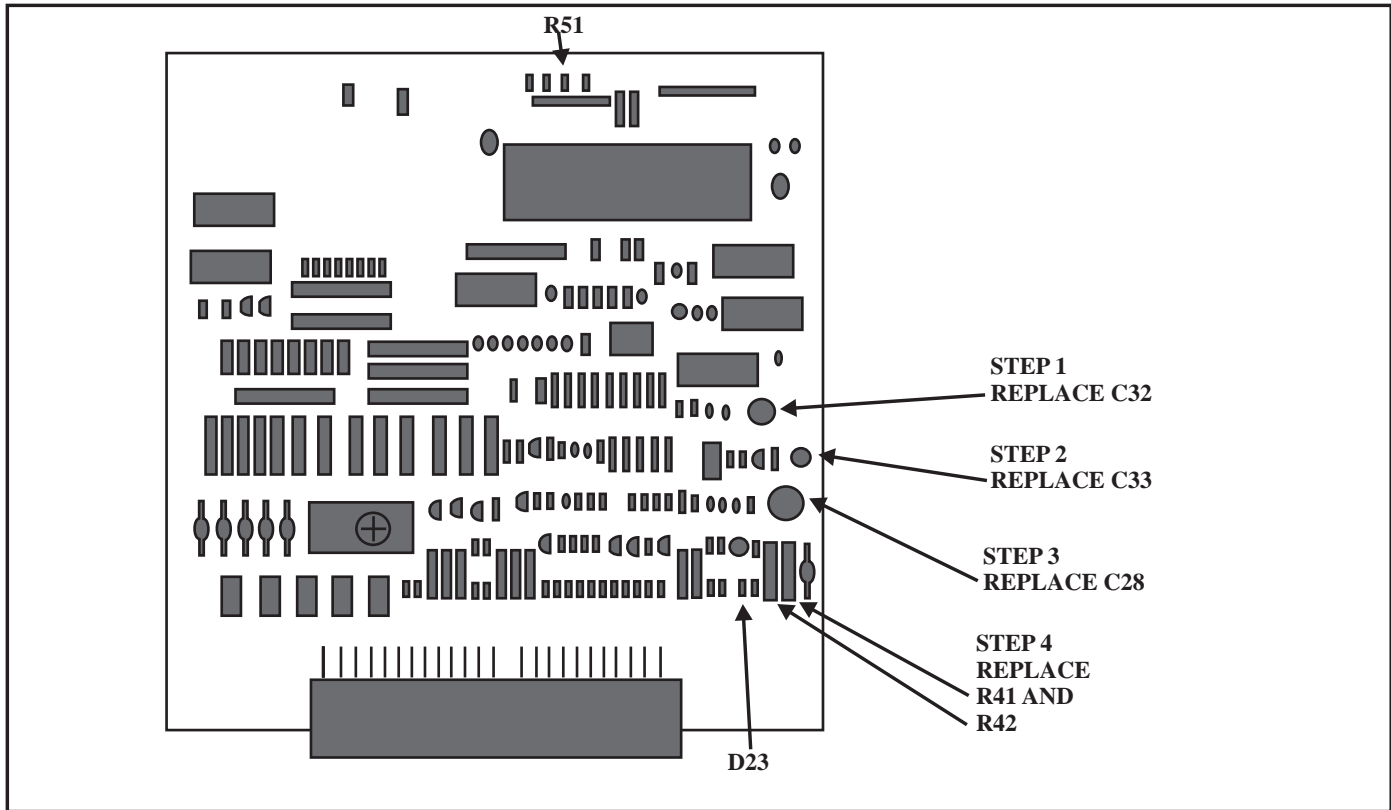

Figure 1
- Step 4: Remove and replace R41 and R42 with 15 Ohm 1/2 Watt resistors (see figure 1)